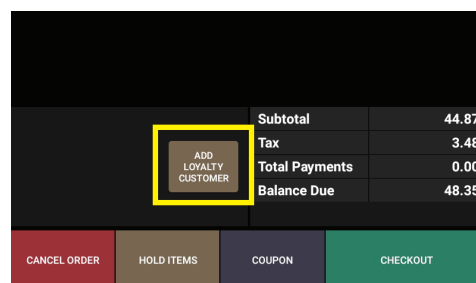

Figure 72a
1. Select ADD CUSTOMER LOYALTY BUTTON > LOOKUP from the main screen. (Figure 72a)